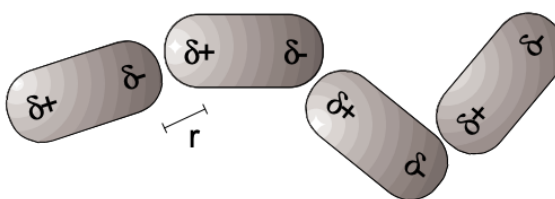

Figure 10
1. **Dipole-Dipole Interaction:** Molecules with permanent dipoles (such as water, alcohol and other organic compounds with functional groups) exert a net attractive force on each other as a result of varying degrees of alignment of oppositely charged portions of the molecules (fig. 10). For two polar molecules with a dipole moment of ( $\mu$ ) separated by a distance of ( $r$ ), the energy of attraction can be quantified as: